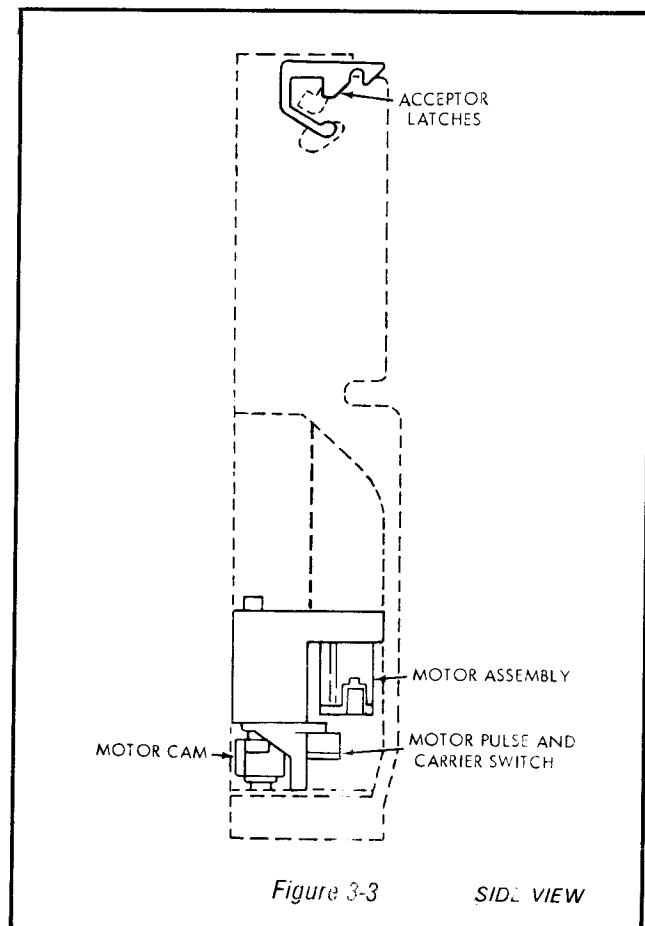

Figure 3-3
K. MOTOR CARRIER AND PULSE SWITCH (Figure 3-3)